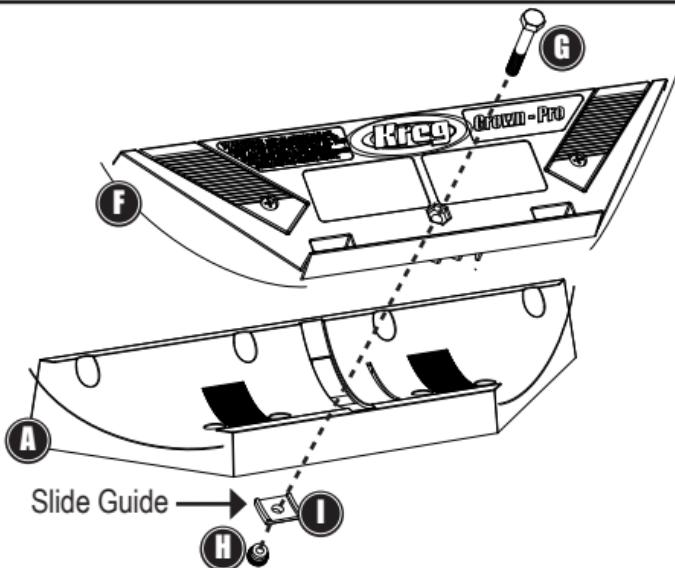
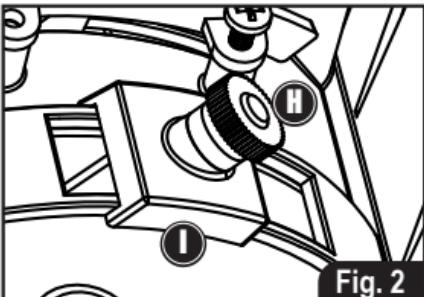

Fig. 1
Fig. 2
Add the 10 Rubber Feet (B) to the Base (A) for a solid hold on your work surface (**Fig. 3**). Connect the Molding Platform (F) to the Base (A) with the Large Bolt (G) (**Fig. 1**). Place the Slide Glide (I) over the bolt (as shown) and secure it in place with the Plastic Thumb Nut (H) (**Fig. 2**).